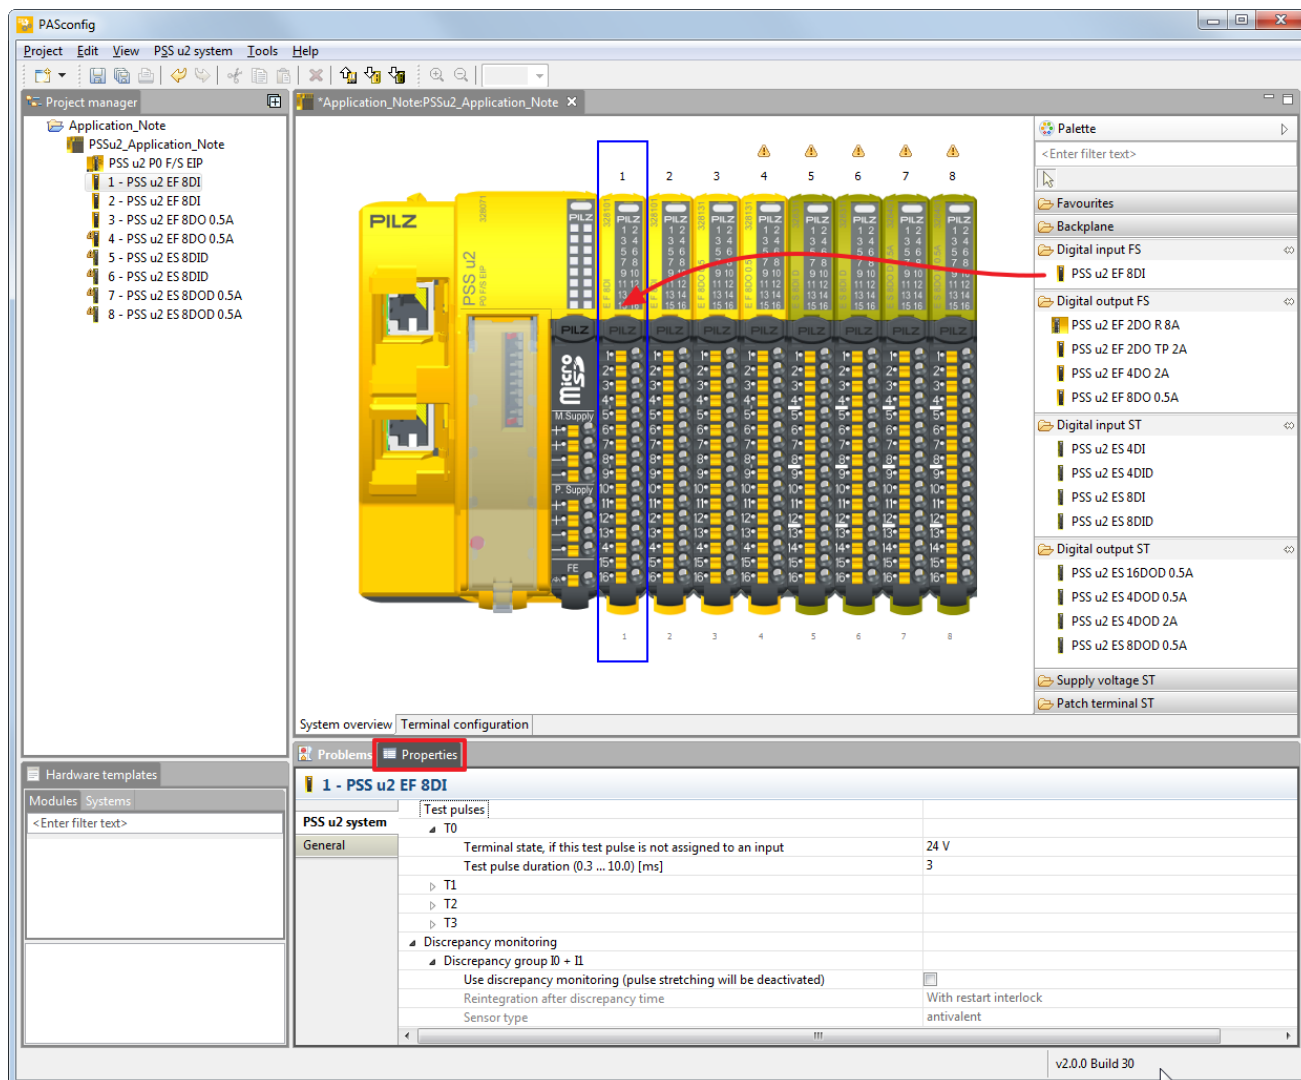

Figure 16: PASconfig – Create a new project » Select the needed modules (Part 5)
- Please check this configuration and adapt it to your application, please see on page 17 Figure 16 "PASconfig – Create a new project » Select the needed modules" and following hints.